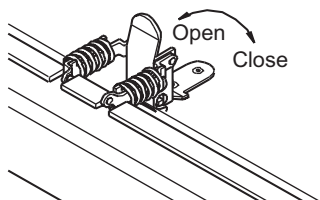

Figure 45 - Opening Door Latches
3. To open glass door, undo latches located on top and bottom of firebox (see Figure 45, page 26). *Note: Use caution when opening these latches. Carefully open door by swinging it to the left. Glass door is mounted to firebox with 5 screws.*